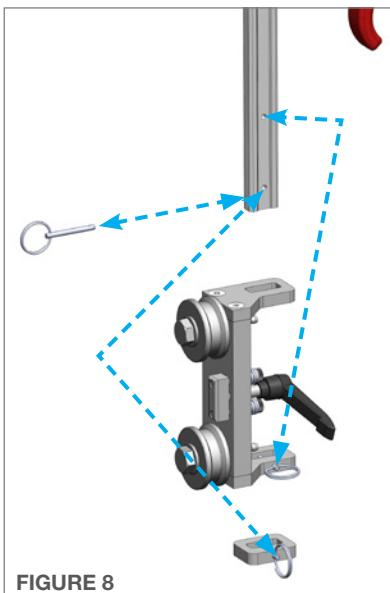

FIGURE 8
- Remove Quick Release Pins from the bottom of the Fin Fan Clamps and slide the Lower Support Brackets and Stops on until the holes for the Pins line up with the holes on the Clamp. Secure the Quick Release Pins in place. (**Figure 8 & 9**)